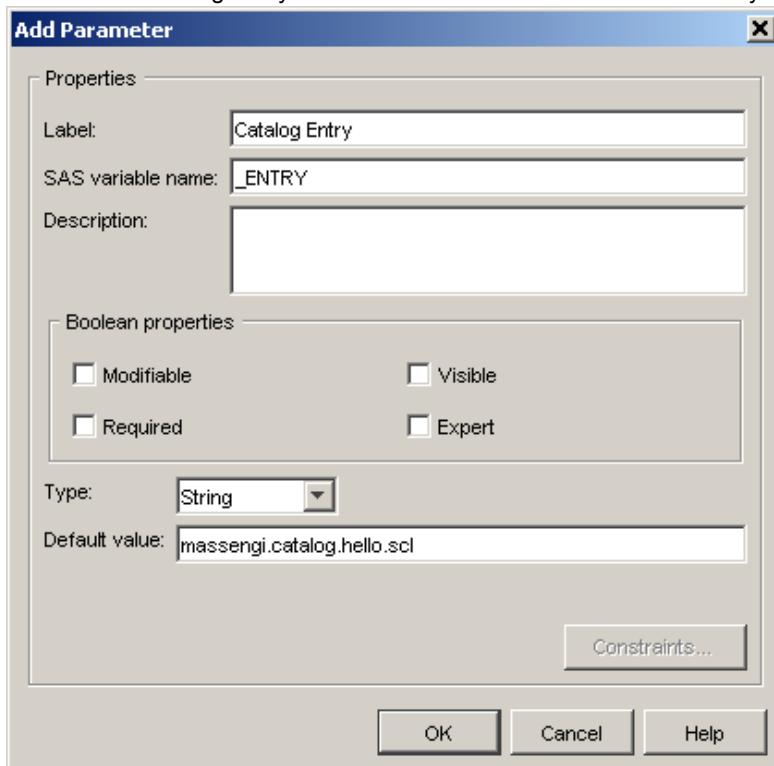

Figure 10. Add _ENTRY parameter
- d. First, add the `_ENTRY` parameter as specified in Figure 10. This parameter is used by `stprunen.sas` to pass in different program names without modifying the program each time. You set the parameter to the value of the SCL catalog that you will run. Make sure all values are as they appear in Figure 10. Click OK when done.